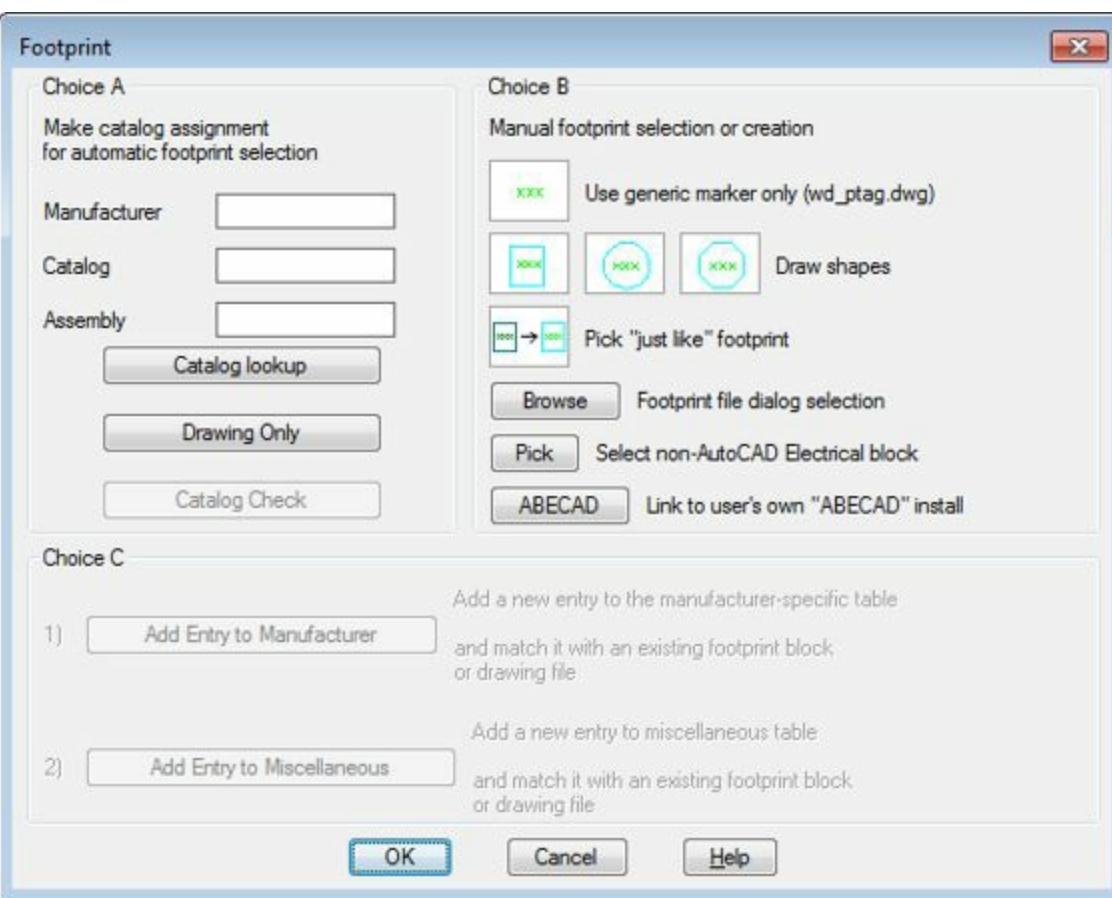

Figure-25. Footprint dialog box
- Click on the **Enclosures** category from the dialog box. The **Footprint** dialog box will be displayed as shown in Figure-25.